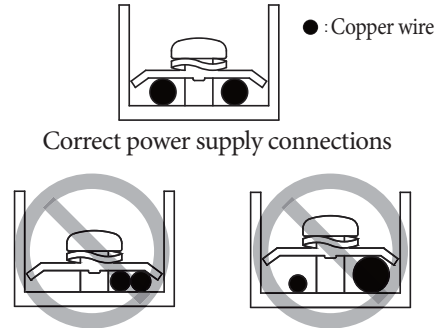

Figure 9.2
- Not to connect two power cables with different diameters to the same power terminal (causing the wires to overheat due to loose wiring) (See figure 9.2).